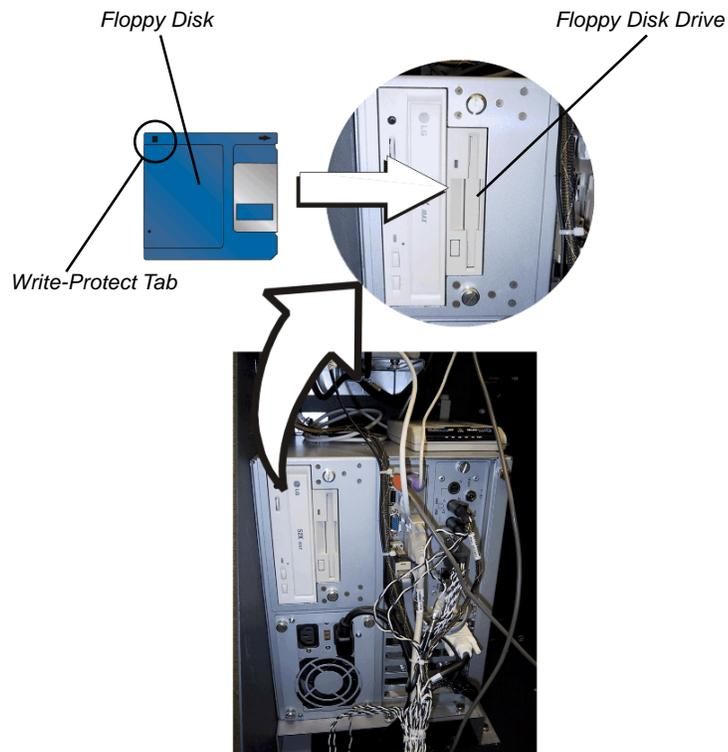

Fig. 13-2. Location of Floppy Disk Drive.
2. Locate the floppy disk drive, as shown in Figure 13-2.